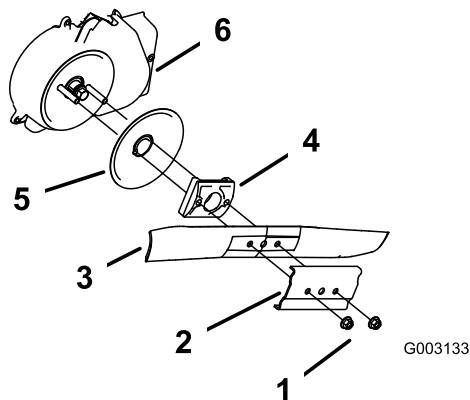

Figure 25
3. Remove the 2 blade nuts and the stiffener (Figure 25).
4. Remove the blade (Figure 25).
5. Remove the blade driver and disk (Figure 25).
6. Remove the blade-brake-clutch shield (Figure 25).
10. Install the blade and the stiffener that you previously removed (Figure 25).